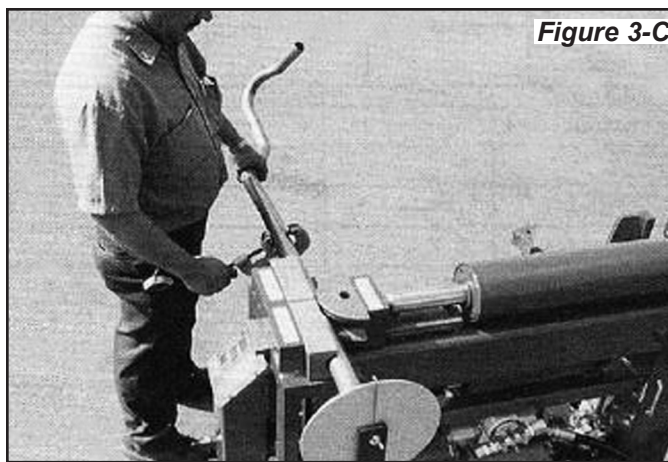

Figure 3-C
37. You are now finished bending the pipe. Remove the ROTATION DIAL and cut the tubing end off at the last O/A mark. (See figure 3-C.)